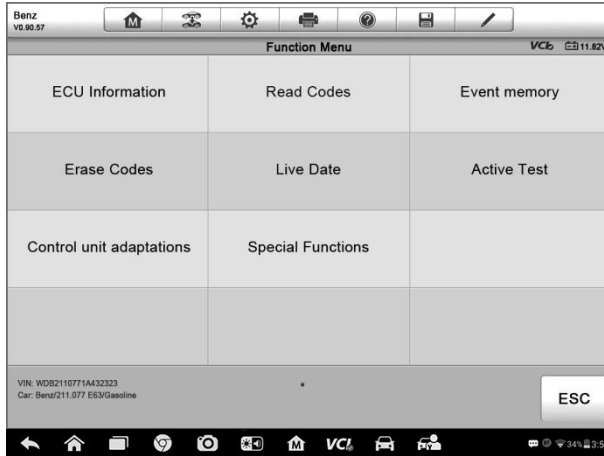

Figure 4-6 Sample Function Menu Screen
- Tab the > button to the right of the system item, on which you want to perform further diagnosis and other test activities. A Function Menu screen (*Figure 4-6*) shall then display.